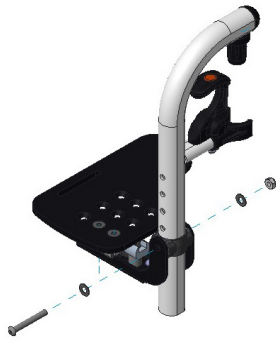

Figure 4.32
4.9.1 Use the tool provided by KARMA to loosen the bolts at the bottom part of the footrest. (See Figure 4.32)